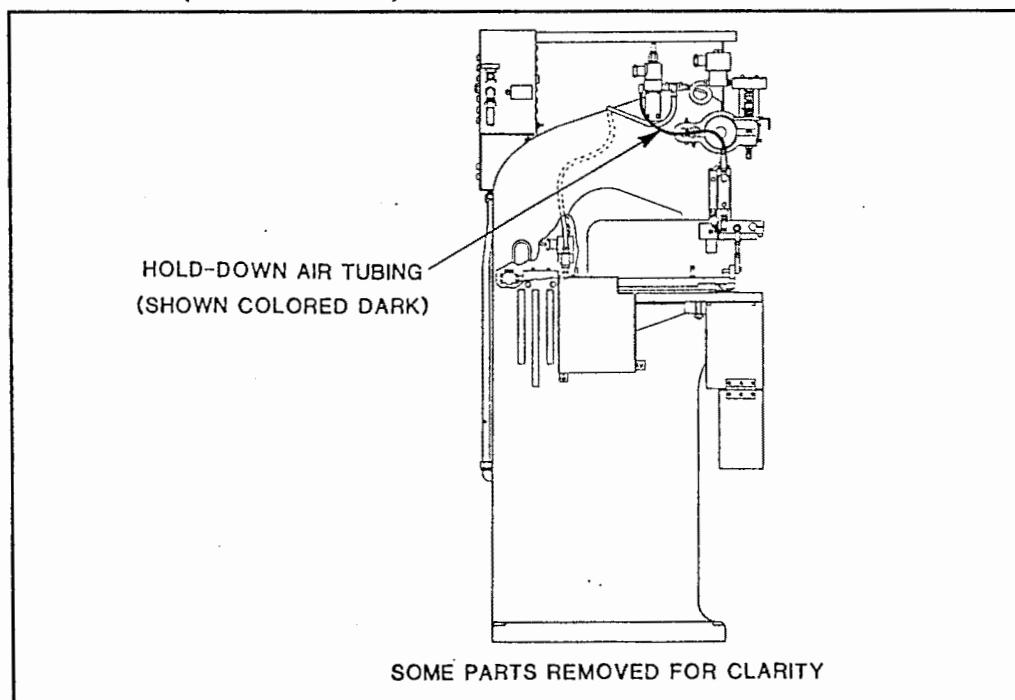

Figure 8.7 A
3. Unscrew brake guard screws (113) with 3/16" hex wrench.
4. Unhook brake guard (117) from press. Brake guard has two hooks that hook onto top of press.
5. Make sure hold-down air tubing is hooked up to hold-down unit as shown in Figure 8.7 A. If an end of the tube is disconnected, reconnect it and go to step 6.